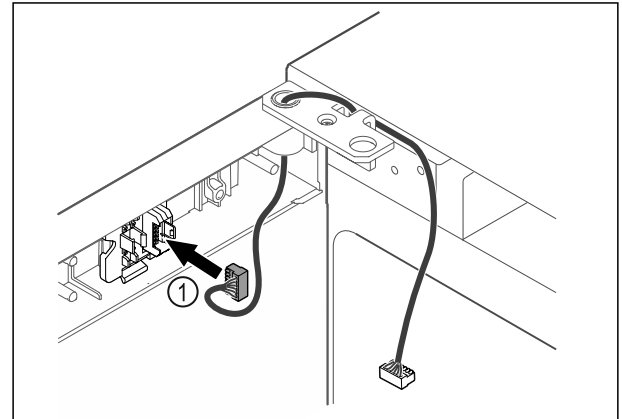

Fig. 56
- ▶ Put the plug Fig. 56 (1) in the plug holder.